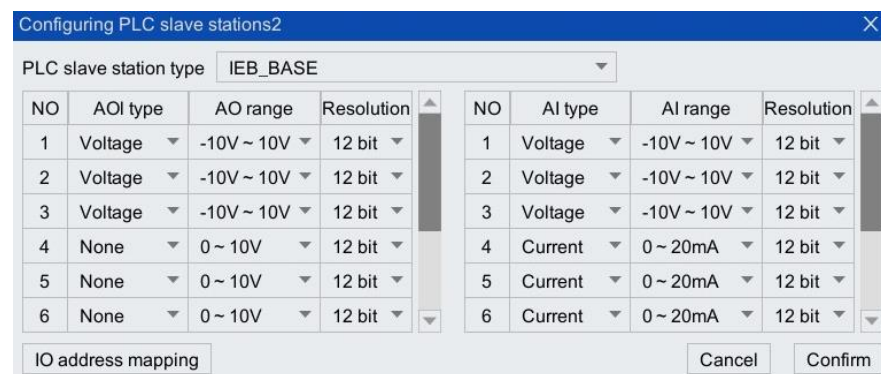

Figure 18-12 [Configuring PLC slave] interface parameter configuration example
Step8. Select "IEB" or "IEB\_BASE" in [PLC Slave Type], and configure the type and range of AO and AI signals as shown in Figure 18-12.